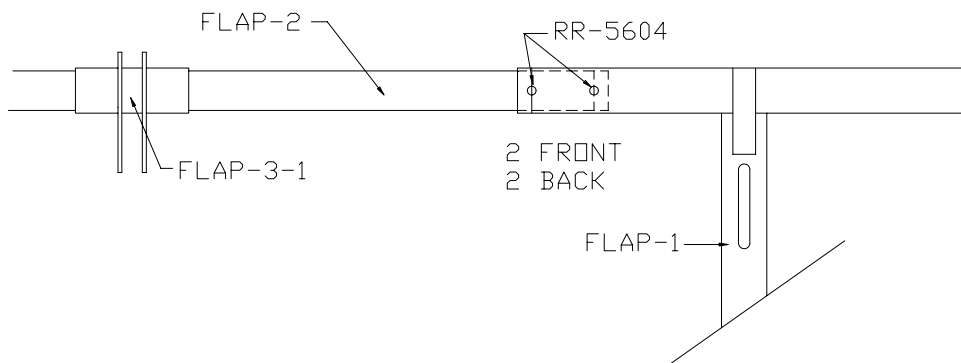

Figure 15.15.7
13) Drill and rivet the Torque Tubes together using 3/16" x 1/4" SS rivets (RR-5604). Use 4 rivets per joint (2 in front and 2 in back). Figure 15.15.7.